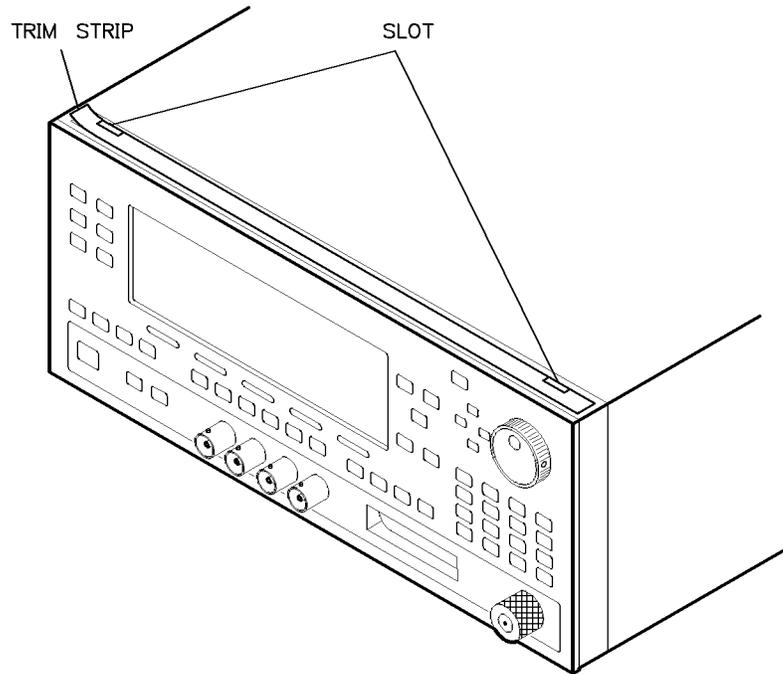

Figure 7-3. Front Edge Trim Strip
5. Remove the vinyl trim strip from the top front edge of the instrument. (Place a flat screwdriver in either slot in the trim strip and lift to remove, see Figure 7-3.)